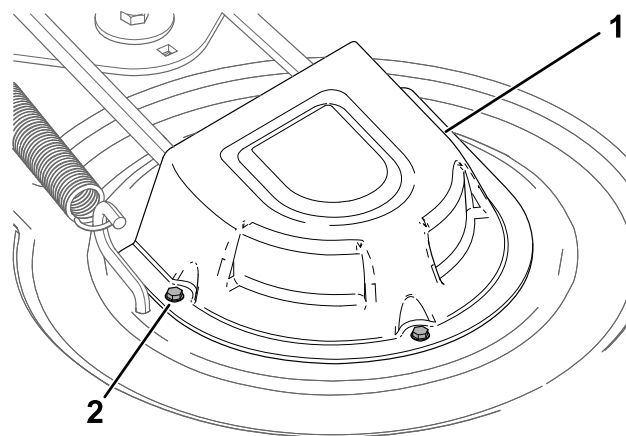

Figure 56
4. Loosen the screws and remove the pulley covers (Figure 56).